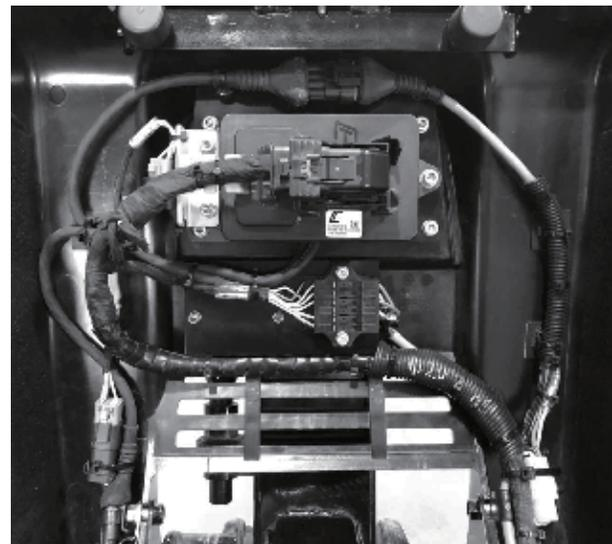

Figure 26. Wiring and Routing
- Use any remaining cable ties (P/N 506010070) to further secure cables and wires as needed. See Figure 26.